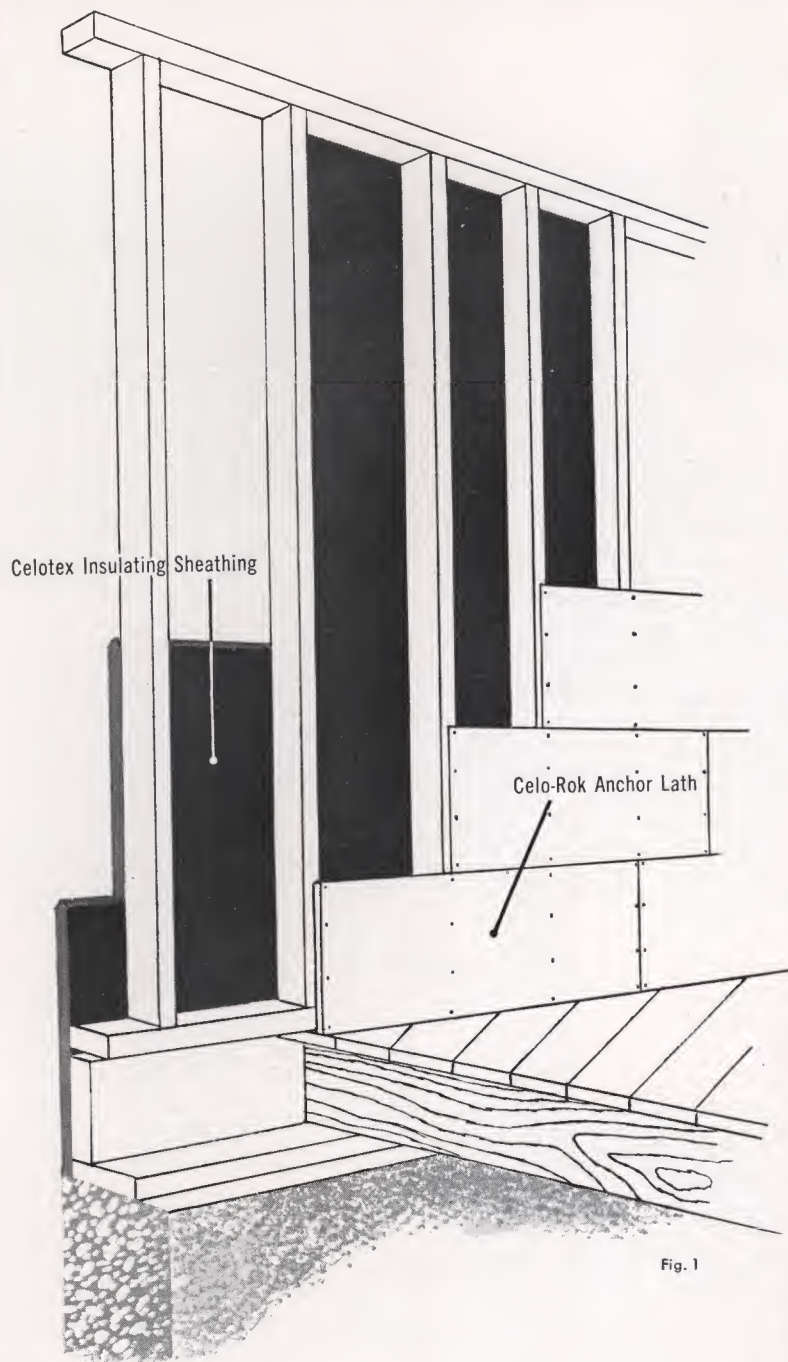

Fig. 1
1. Use Celotex Insulating Sheathing on the other side of the wall (see Fig. 1). This is a widely used combination and greatly increases the insulation value of the wall.